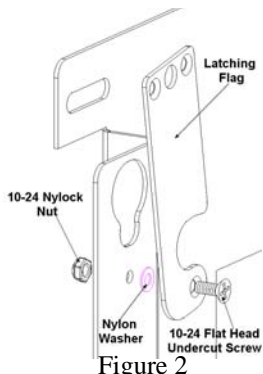

Figure 2
1. Attach latching flag to PSM using the flat head screw, Nylon washer and Nylock nut (see Figure 2). Tighten the nut and screw until friction will hold the flag in place.